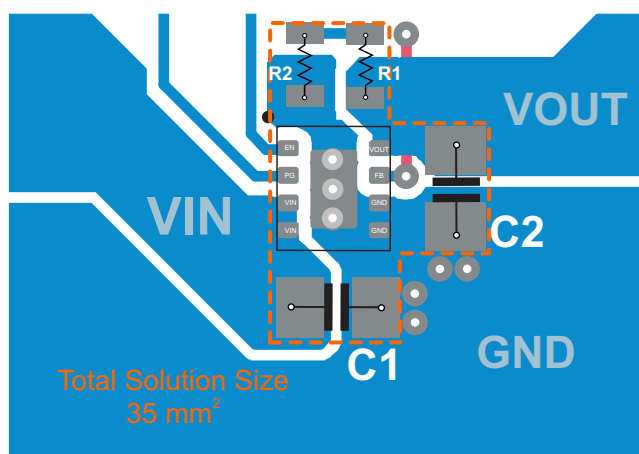

Figure 30. TPS82084/5 PCB Layout
- Refer to Figure 30 for an example of component placement, routing and thermal design.